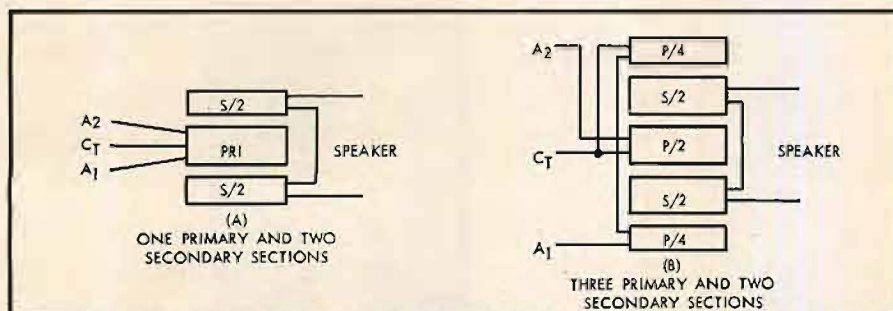

Fig. 13. Further subdivision of windings to reduce leakage reactance.
of sub-division may be carried still further, both primary and secondary windings being sub-divided into sections and interleaved. Some typical arrangements are shown in Fig. 13. That of (B) has particular advantage in push-pull circuits in that the two half primaries can be made to have the same resistance by using $P/4$ and $P/4$ in series for one half primary, with $P/2$ for the other half. This also equalizes the leakage inductance from either half primary into the secondary.